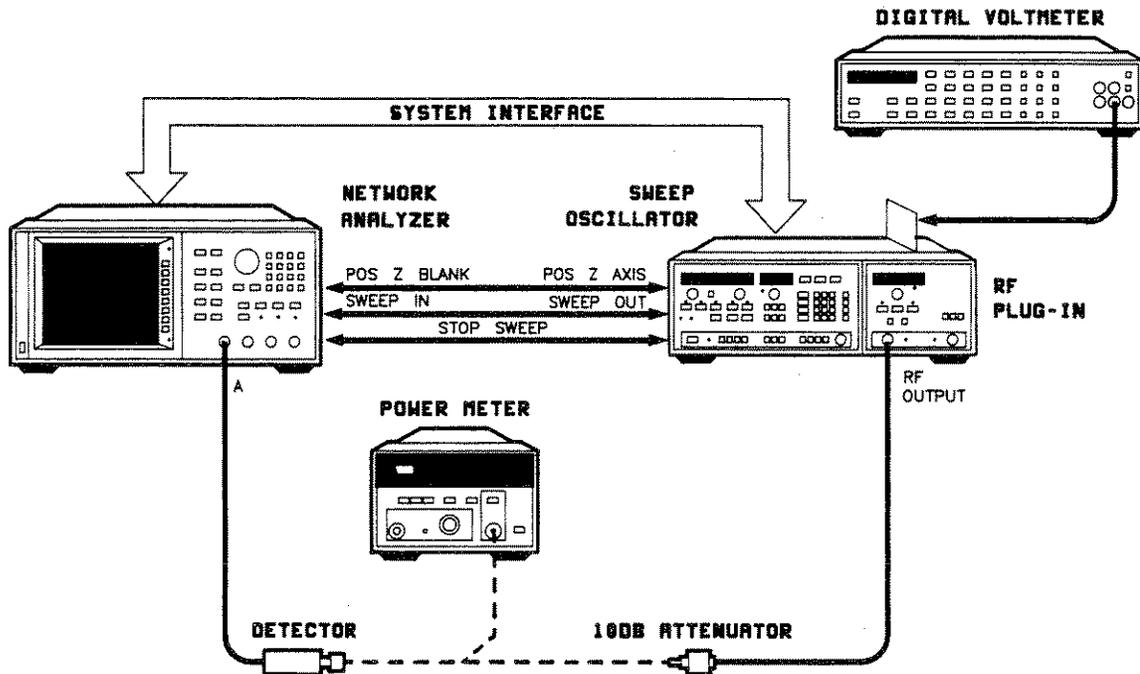

Figure 5-31. ALC Adjustment Test Setup
1. Connect the equipment as shown in figure 5-31. With AC power off, remove the A5 FM driver board. Place the A4 assembly on an extender board. Switch power on to all of the instruments.